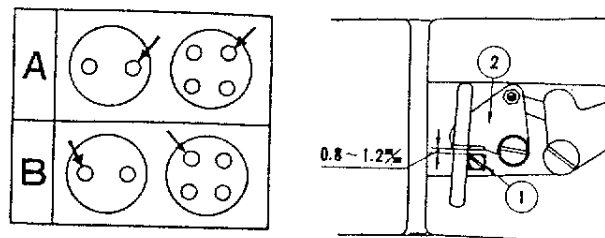

Fig. 10
CE REGLAGE EST EFFECTUE EN DESSERANT LA VIS 1 DU BLOC ARRIERE DE LA BARRE DE TENSION (2) EN INSERANT UN TOURNEVIS DANS LE TROU SITUÉ A LA PARTIE GAUCHE DE LA PLAQUE FRONTALE ET EN DEPLACANT LE BLOC DE GAUCHE A DROITE. DEPLACÉ VERS LA DROITE, LA LONGUEUR DE FIL EST AUGMENTÉE ET DIMINUÉE EN LE DEPLACANT VERS LA GAUCHE. LORSQU'À LA FIN D'UN CYCLE, L'EXTREMITÉ DU FIL APPARAÎT AU TRAVERS DU TROU - FIG. 10 FLECHE A - DEPLACER VERS LA GAUCHE, SI LE FIL APPARAÎT AU TRAVERS DU TROU - FIG. 10 FLECHE B - DEPLACER VERS LA DROITE, MAIS SANS QUE L'EXTREMITÉ DU FIL DISPARAISSE.